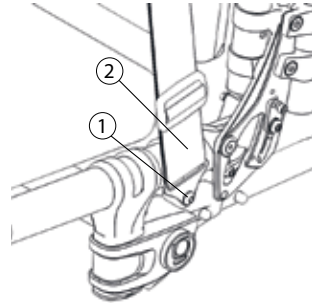

Fig. 10
- Remove Screw (1) in order to remove the seat belt clamp (2) that is attached to the belt. (Fig. 10)